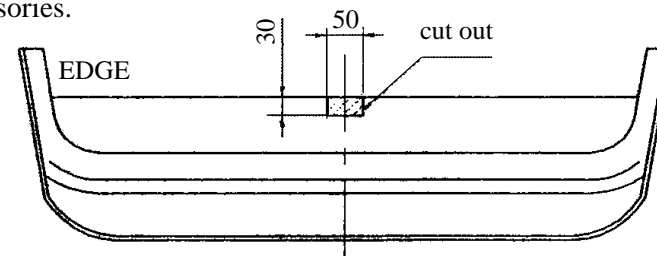

Fig. 2
2. To right chassis member fix bracket (pos. 5) using bolts M10x1,25x35mm (pos. 9) through holes (pos. A - loosely).
3. To left chassis member fix bracket (pos. 4) using bolts M10x1,25x35mm (pos. 9) through four holes (loosely), and through hole (pos. B) bolt M10x30mm (pos. 10). Use handle with nut M10 (pos. 6).
4. Between brackets (pos. 4 and 5) slip main bar of the towbar (pos. 1) and fix using bolts M12x35mm (pos. 8).
- rear muffler handle to element (pos. 5) through holes (pos. C).
- bumper, after his cut (see fig. 2.)
7. Fix tow-ball (pos. 2) and socket plate (pos. 3) using bolts M12x75mm (pos. 7) from accessories.